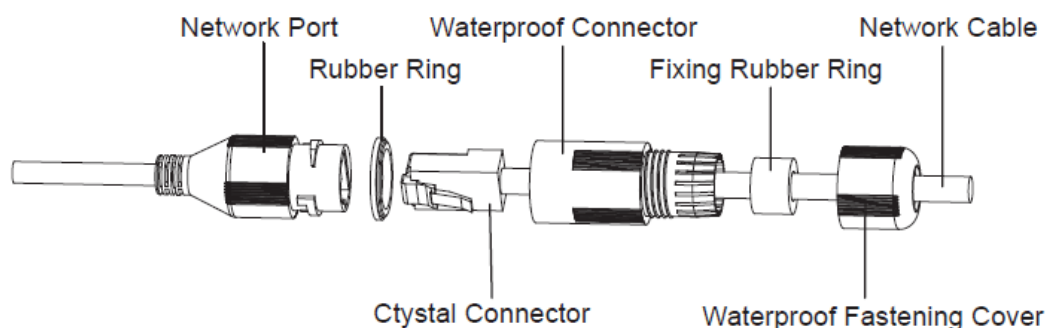

Figure 2-3
**Step 3** Install waterproof connector for network port, which is shown in Figure 2-3.